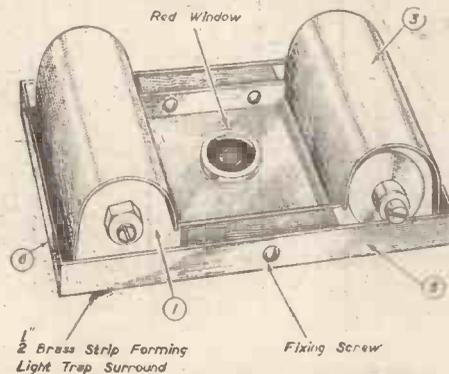
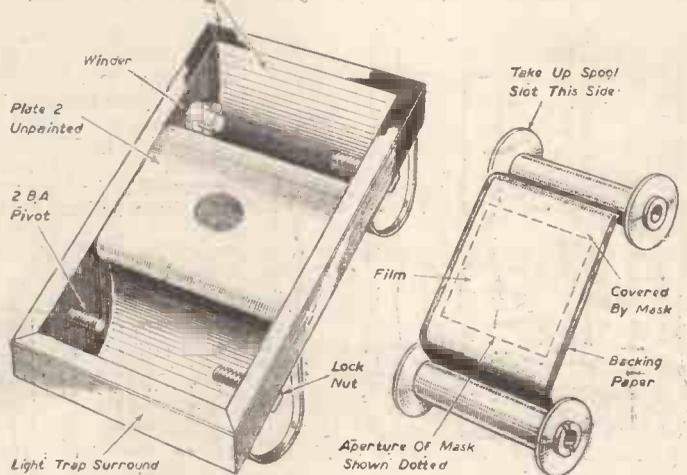
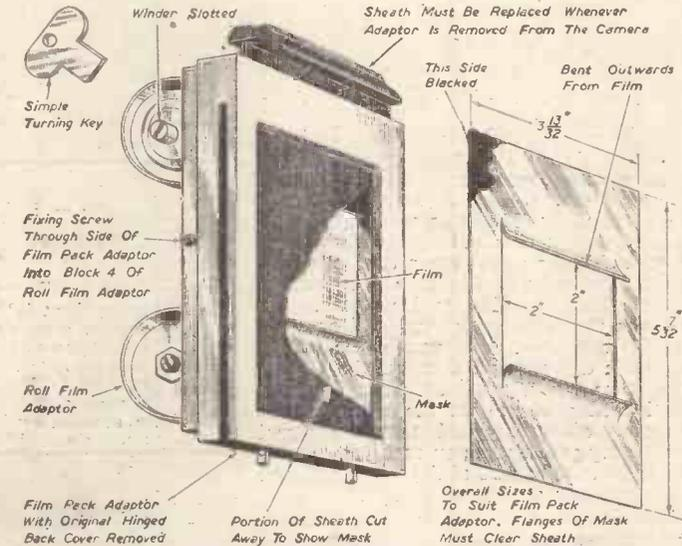

Fig. 1.—Back view of holder and enlarged detail of film winder.
Fig. 2.—Front view of holder and details of the spools, showing how they are arranged in the adaptor.
Fig. 5.—The holder as it appears when fitted into a typical film pack adaptor; and details of the mask.
Three complete views of the holder are given in the drawings, from which the construction can be readily followed. Fig. 1 shows the holder from the back with the central red window. Fig. 2 from the front, whilst Fig. 5 shows the holder as it appears when fitted into a typical film pack adaptor and ready for sliding into the plate camera. In this latter view the removable light-tight sheath is shown partially cut away to show part of the film behind the aperture of the mask ready for exposure.
Two mahogany strips or blocks numbered (4) were then made, each fitting closely at the central point of the roll-film holder between the channel formed by its side plates and surround. These blocks are merely used to afford a grip to the small brass fixing screws screwed in from the outside of the film pack adaptor casing. The blocks themselves are secured from inside the side plates by two c/sk screws; these can be clearly seen in Fig. 1.
To hold the film and take-up spool in the half-cylinder receptacles, three short lengths of 2BA brass screwed rod were used with nuts to act as lock nuts. Fig. 2 shows these screwed into the positions they occupy when the two spools are in place, the spools themselves being omitted in this view for clearness. The correct way of fitting the spools so that the film comes right side up is shown in the right-hand sketch in Fig. 2.
A mask was necessary to give the reduced picture size and this was cut from very thin gauge tin plate. Brass foil would also have been suitable for this fitment. The shape and size adopted is shown to the right of Fig. 5. Great care was taken in cutting out the aperture of the mask and in bending out the narrow flanges. The latter were necessary to avoid scratch of the film as this passed across the aperture between each exposure. These flanges were, of course, bent outwards from the film surface and as these slight projections had also to clear the dark slide or sheath, the angle of bend was very small and quite critical. As the writer's camera is a reflex a similar mask made from black paper was fitted over the ground glass inside the viewing hood.
be centred correctly, without the necessity of fitting loose washers or collars between the side plates of the holder and the spools. This applies to the wood-type spool. Such washers might, however, be required if the all-metal type No. 120 spool were used, as the latter has a clear hole right through. The correct arrangement of the spools and film in the holder is shown to the left in Fig. 2. With the backing paper anchored in the take-up spool in the normal manner the mask was placed in the film pack adaptor and the roll-film holder carefully pushed into the film pack adaptor. Two brass screws were used to secure the two parts together. On completion of the film these two screws only needed removal to release the roll-film holder for fitting a fresh film.
It will be noticed from the drawing Fig. 1 that the original turning lugs of the winder have been sawn off and turning of the film is accomplished by a screwdriver or the simply made turning key shown in Fig. 5.